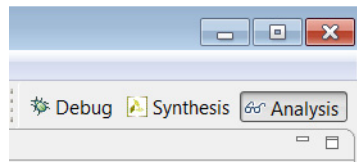

Figure 6-7: Opening the Analysis Perspective
1. Click the **Analysis** perspective button (Figure 6-7) to begin interactive design analysis.